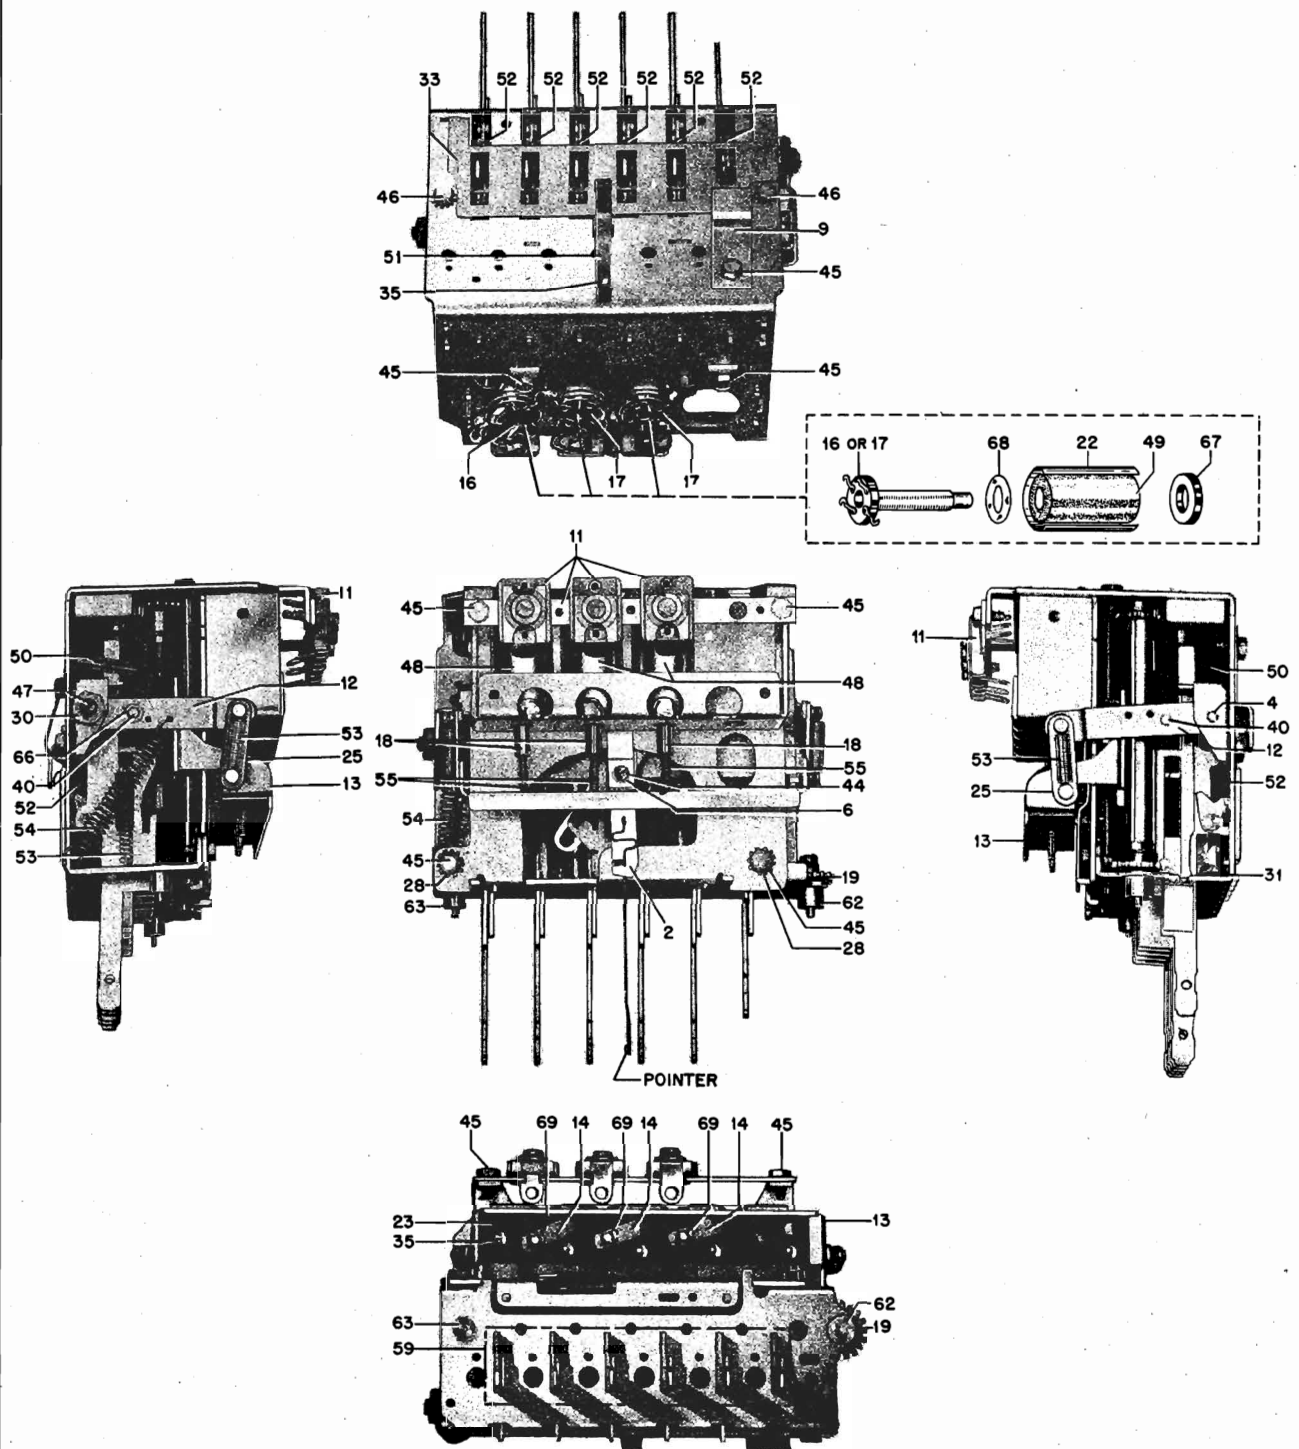

FIGURE 1. AUTOMATIC TUNER AT-58 PARTS LOCATIONS
Unscrew two #8 sheet metal screws (45) on the back of the tuner and two #8 sheet metal screws (45) on the top front of the tuner. (Do not unscrew screws (45) at trimmer bracket). Before removing top deck, unhook springs (53) and links (25). Grasp top deck and lift up and tip back. This leaves both decks open for servicing. See Figures 1 and 2.